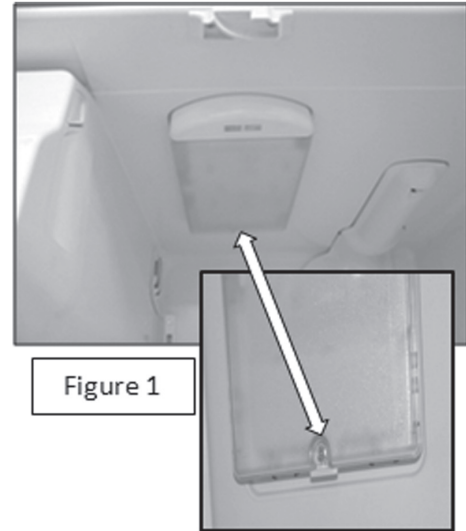

Figure 1
2. Remove the ¼" screw in the rear of the light cover securing the cover to the cabinet, see figure 1.
The user interface hardware is identical to some current models, see figure 1. The exception is the new "Stealth" software. The new software encompasses revised graphics, Icons and animation. The program is consumer friendly and easy to use. A few minutes reviewing the Use and Care manual and experimenting programming the control is all that is needed to be able to access and use all the built in features. A few of the screens are highlighted in the following section.